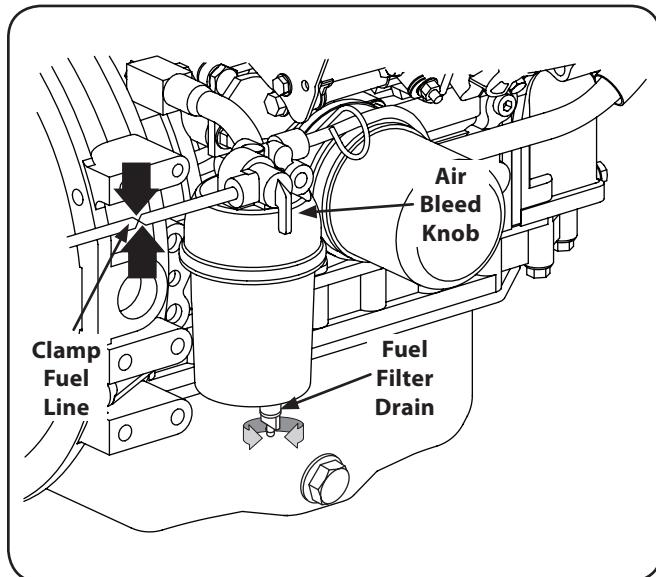

Figure 6-7
- Turn the filter drain counterclockwise to open. Allow the water at the bottom of the filter to drain until only pure diesel fuel drains from the valve. See Fig. 6-7.
- Slowly turn the air bleed knob counterclockwise until fuel begins to seep out around the bleed knob. Turn air bleed knob clockwise to close. Refer to Fig. 6-7.
- Clamp the fuel line just to the rear of the fuel filter. See Fig. 6-7.